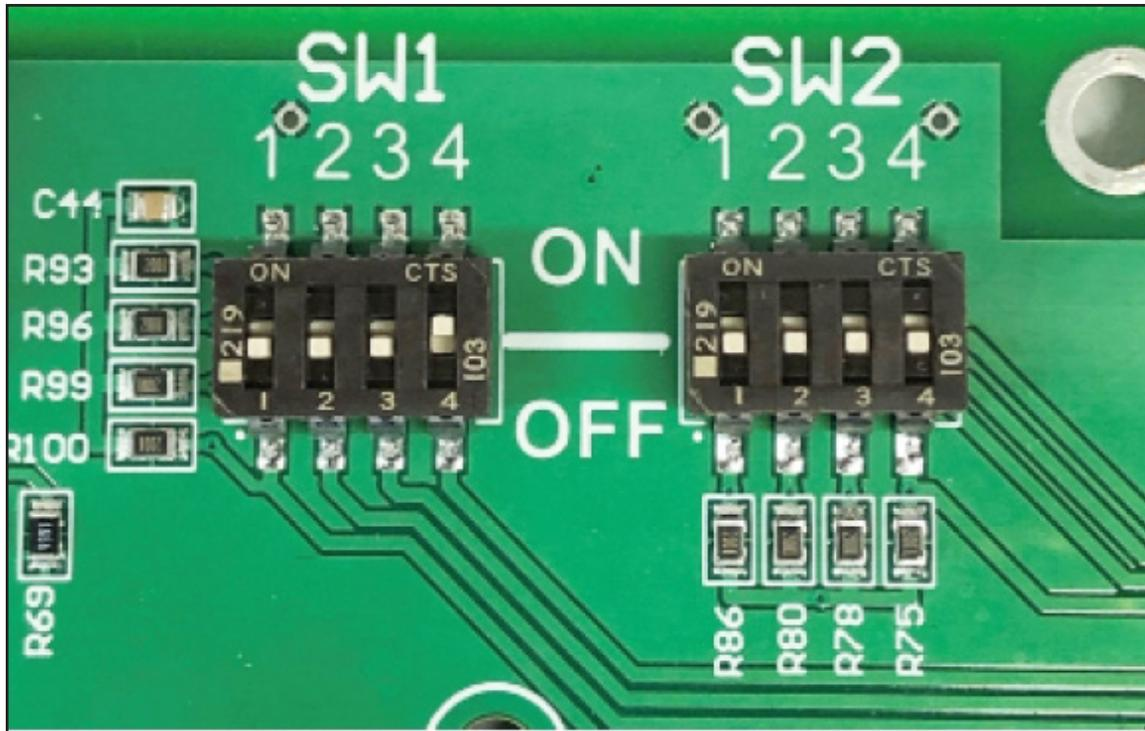

Figure 5 – Detailed View of the DIP Switch in Parallel Configuration
- Figure 5 shows a detailed view of the [SW1-4] DIP switch in the parallel configuration. When parallel operation is enabled and only one vehicle is connected to the power station then both power sections in the charger are combined to deliver maximum power.